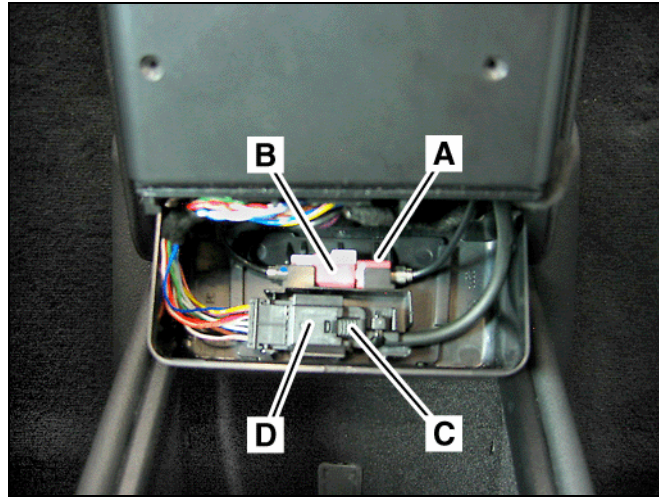

**Figure 26**
7. Snap the contact plate (A, Figure 26) into the false floor by firmly pressing down from the top side until it audibly engages.
8. Route the contact plate leads through the cable manager (B, Figure 26) on the false floor underside.
9. Feed the male FAKRA and power supply connectors of the contact plate through the hole (C, Figure 26) inside the upper compartment, to the housing for the female FAKRA and power supply connectors at the outside bottom of the upper compartment.